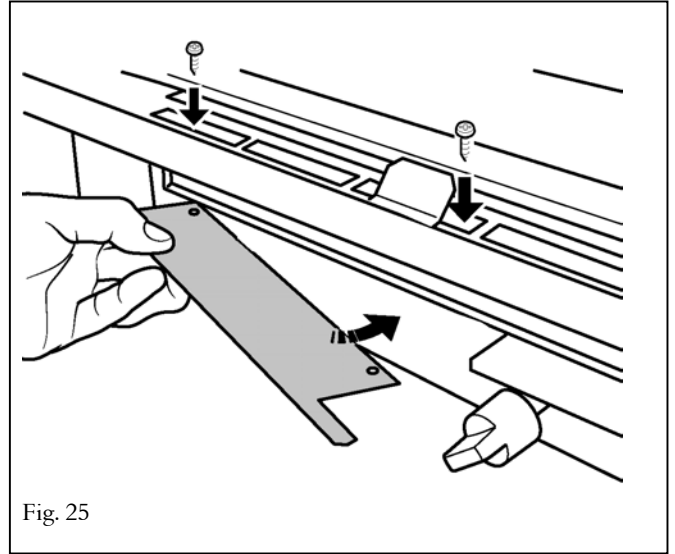

Fig. 25
7.7.2 Fit the bottom front heat shield to and below the black burner box tray – See fig. 25.